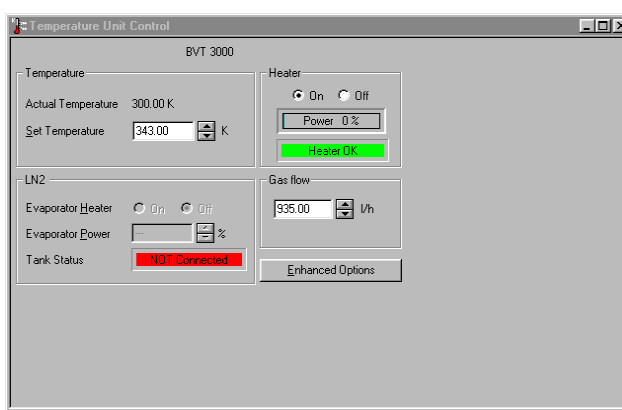

Figure 3-1 Setting the temperature for a multiple field sweep experiment.
2. **Set the temperature in the Temperature Unit Control dialog box.** (See Figure 3-1.) Open the Temperature Unit Control dialog box and set the temperature. In this example experiment we have set the temperature to 343 K. See Section 3.3 for above room temperature experiments.